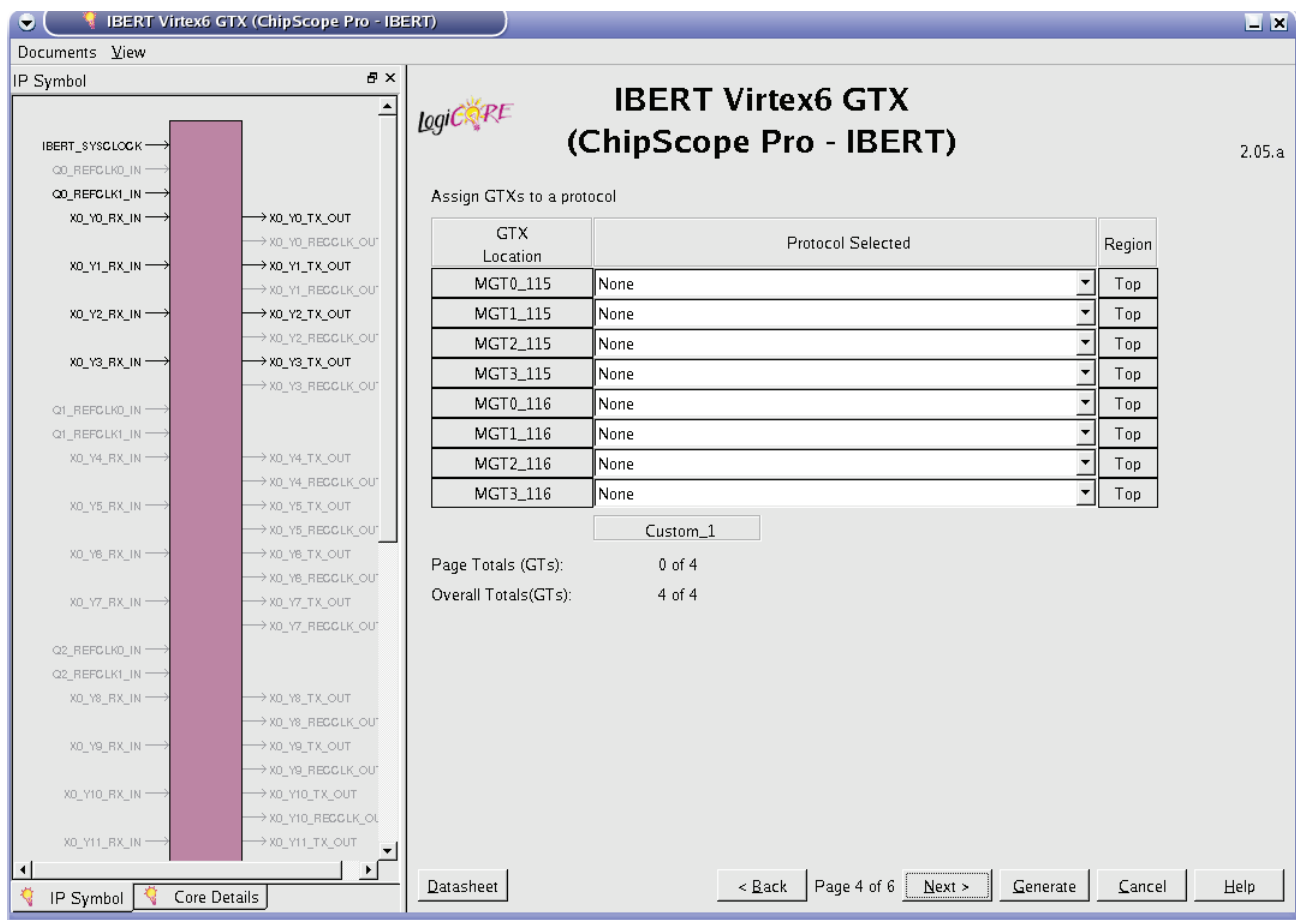

Figure 1-28: IP Customization, Page 4
14. Leave page 4 settings as they are. Figure 1-28 shows the correct settings. After entering the changes to page 4, Click **Next >** to continue to page 5.